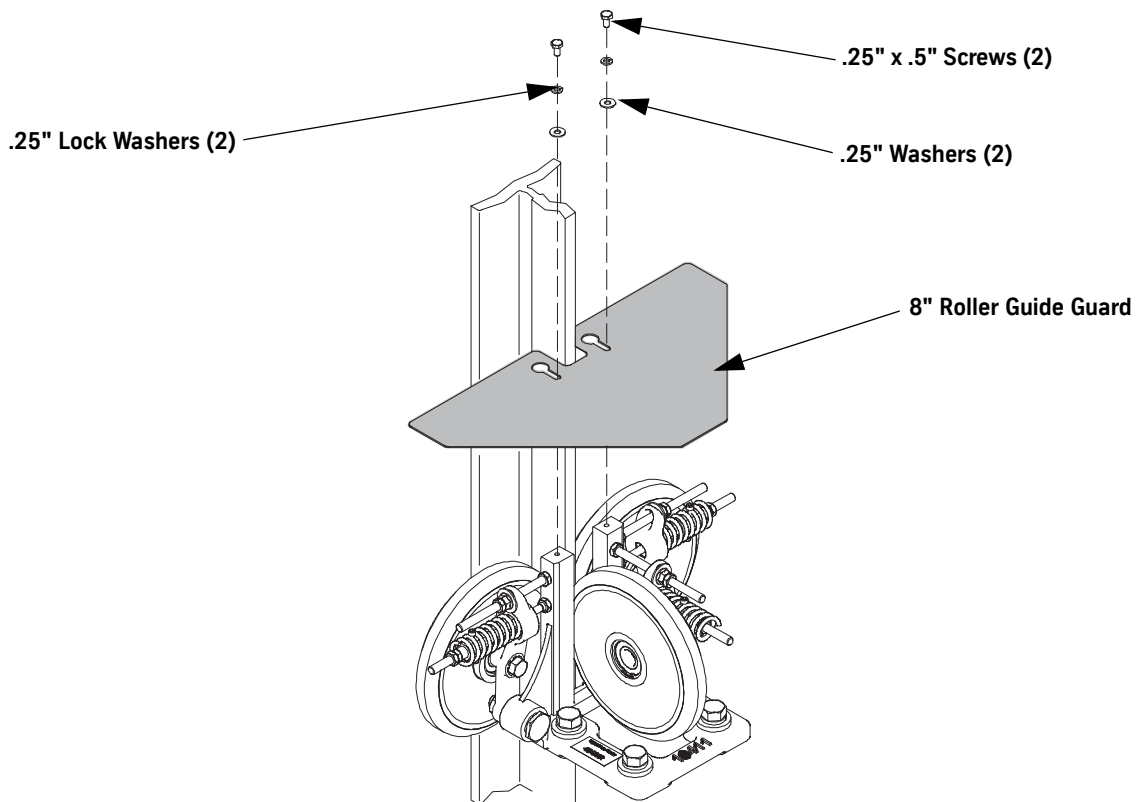

Figure 5 - Roller Guide Guard Installation
5. Install the roller guide guard. See Figure 5.